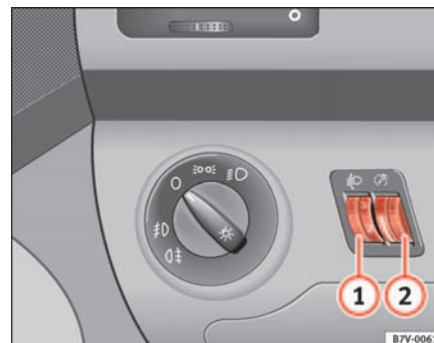

Fig. 72 Instrument panel: headlight range control (1) and illumination of instruments and switches (2)
When the headlights are switched on, the brightness of the instruments and switch lighting can be regulated to suit your requirements by turning the switch ⇒ page 109, fig. 72 ①.